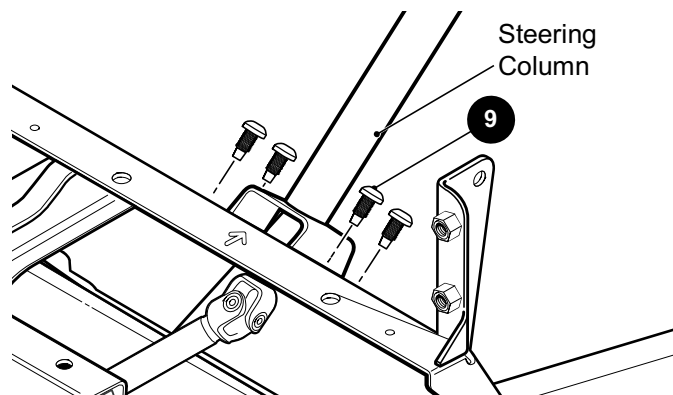

Figure 10 Steering Column Assembly Screws
3. Remove four torx head screws (9) securing steering column assembly to vehicle frame (Figure 10).
7. Apply a commercially available anti seize compound to the splines of the intermediate shaft and install the yoke onto the shaft. Do not tighten the upper cross bolt (10), washer (12) and nut (11).
9. Install the four torx screws (9) finger tight and then tighten to the torque specified.(Figure 10).